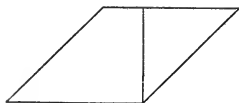

FIG. 19.
**41.** A **rhombus** (Fig. 19) is a parallelogram having equal sides, and whose angles are not right angles.